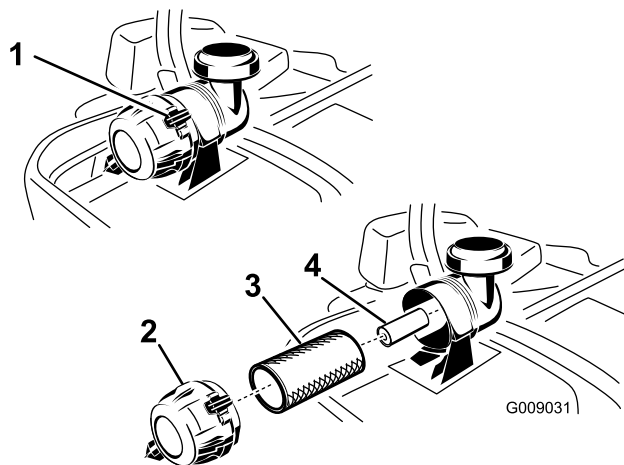

Figure 46
3. Push down to release the retaining clamps on the air cleaner and pull the air cleaner cover off of the air cleaner body (Figure 46).
5. Gently slide the primary filter out of the air cleaner body (Figure 46). Avoid knocking the filter into the side of the body.
1. Do not clean the paper filter, replace it (Figure 46).
2. If the secondary filter is being replaced, carefully slide it into the filter body (Figure 46).
3. Carefully slide the primary filter over the secondary filter (Figure 46). Ensure that it is fully seated by pushing on the outer rim of the filter while installing it.
4. Install the air cleaner cover with the breather cap down and rotate so the retaining clamps lock the cover in place (Figure 46).